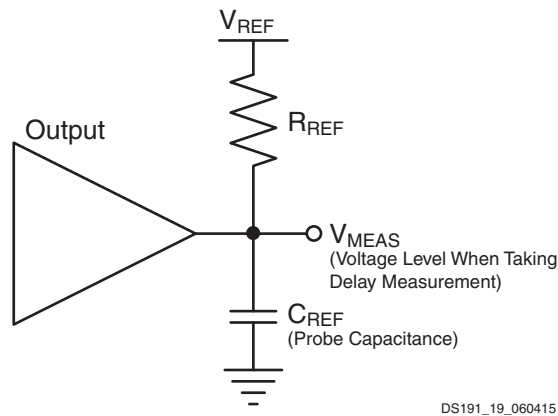
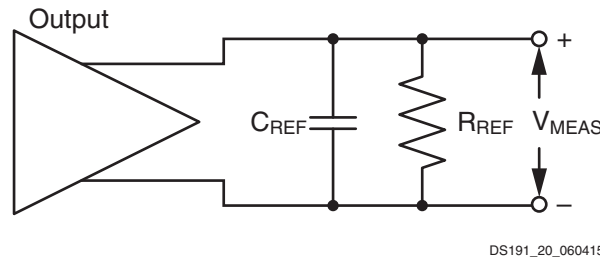

Figure 18: Single-Ended Test Setup
Figure 19: Differential Test Setup
5. This is an input voltage reference that bears no relation to the  $V_{REF} / V_{MEAS}$  parameters found in IBIS models and/or noted in Figure 18.
Output delays are measured with short output traces. Standard termination was used for all testing. The propagation delay of the trace is characterized separately and subtracted from the final measurement, and is therefore not included in the generalized test setups shown in Figure 18 and Figure 19.